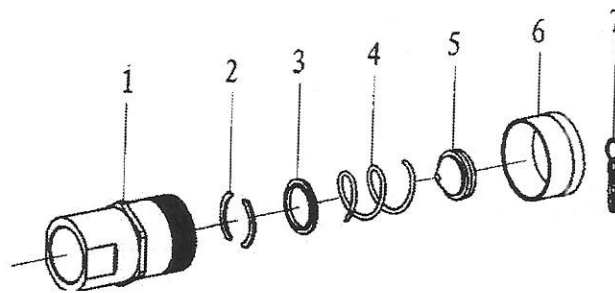

Fig. 15
12. Quick coupling (1 7/8-12UN) (Fig15, Table 12)